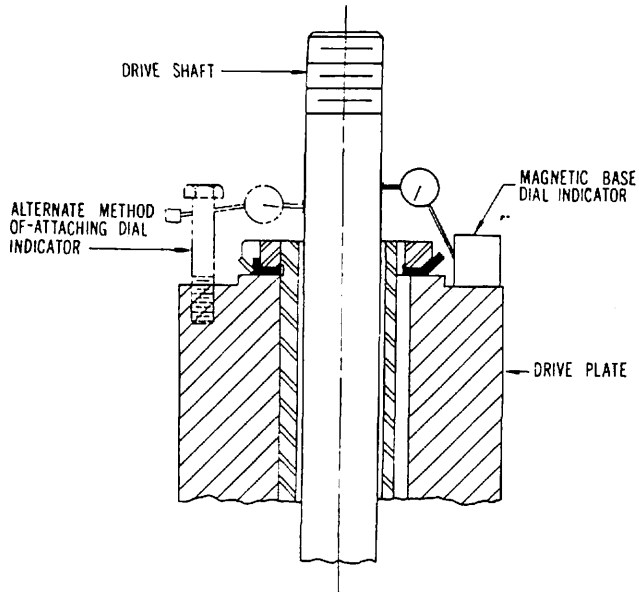

FIG. 23 - DIAL INDICATOR SETUP FOR ALIGNING DRIVER TO PUMP CENTERLINE
9. If the driver-to head connection is not a register fit, align the driver to the pump centerline (drive shaft) as follows: (See Fig. 23).